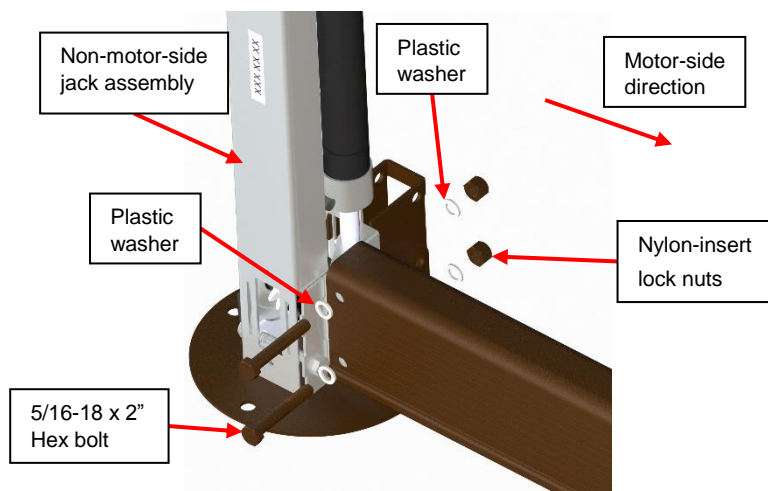

Figure 49
- 11) Install the long aluminum U-frame over the left driveshaft and ensure it lines up with motor-side and non-motor-side jack assemblies. Fasten it in place using two hexagonal 5/16"-18 x 2" bolts, two 5/16"-18 nylon-insert lock nuts and four 5/16" plastic washers per side. Use the 1/2" (13 mm) socket wrench and spanner as tool. **Do not fully tighten all bolts. The driveshaft may fall off during operation, and the re-assembling can be done faster when the bolts have not been fully tightened.** (Figure 49)